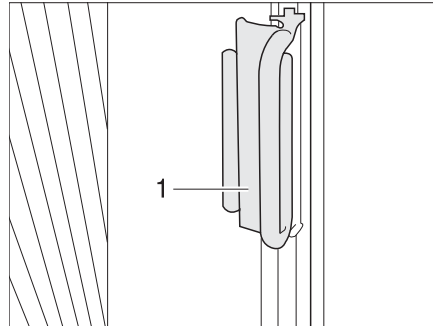

Fig. 79 Roman shade for driver's window and front passenger's window
- Grasp the handle (Fig. 79,1) of the Roman shades and draw carefully forwards until the magnetic catch keeps the Roman shades closed.
- Push the handle (Fig. 79,2) onto the upper part. The Roman shade is secured.